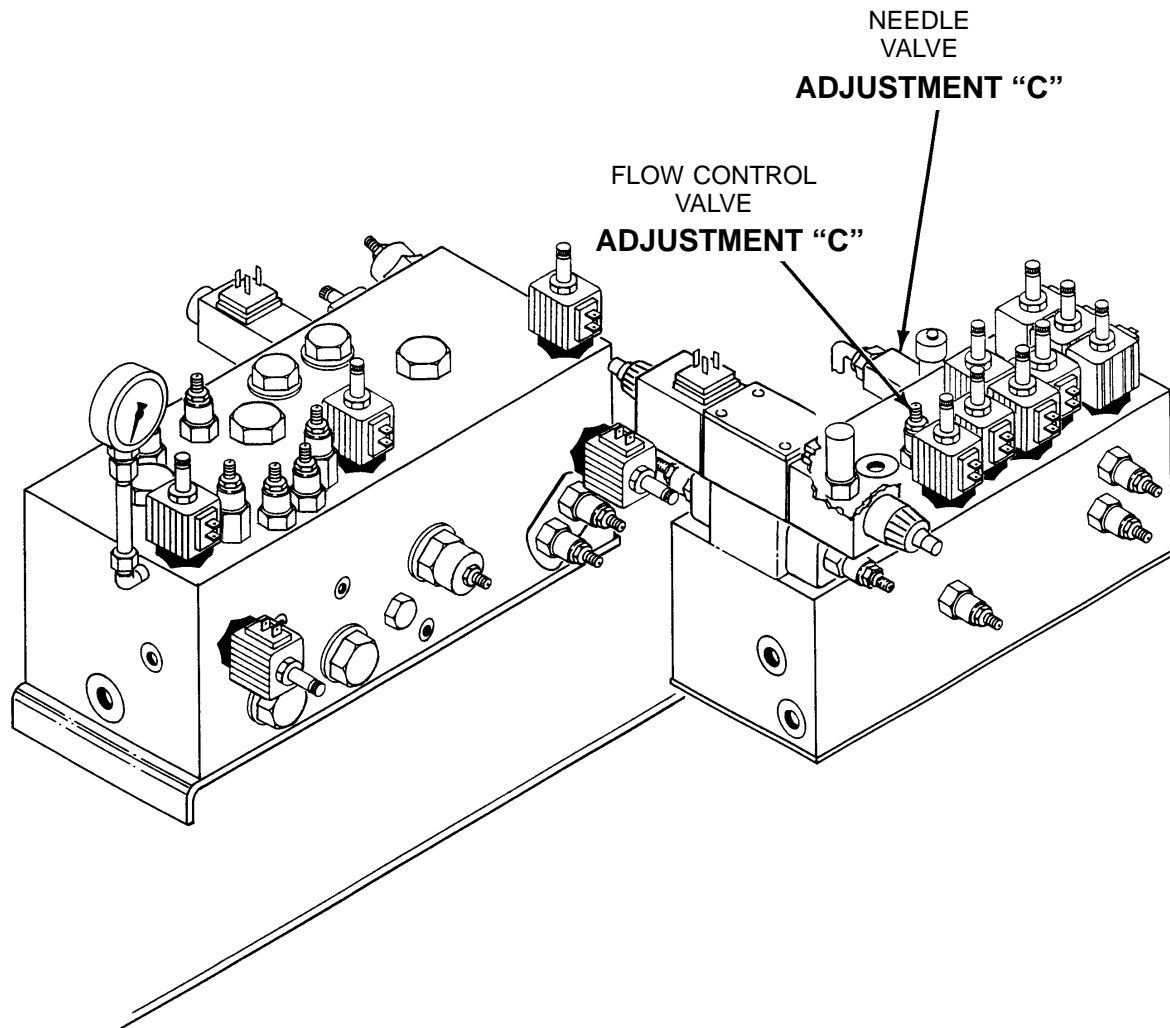

Figure 6
C. Rear Chassis Raise and Lower (Bogy Wheel Cylinder Extend and Retract) Speed Adjustments (Figure 6)